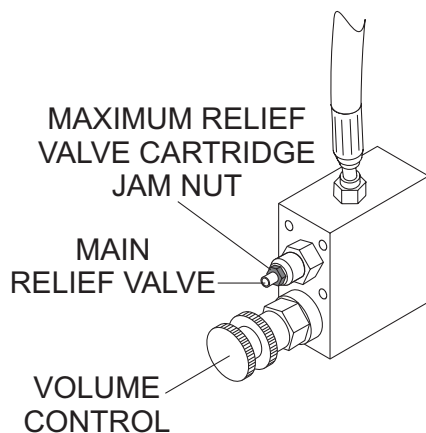
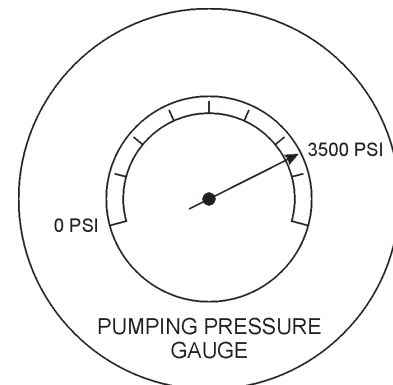

Figure 45. Hydraulic Drive Pump Manifold
Figure 46. Pumping Pressure Gauge
4. Start the engine and loosen the jam nut located on the **maximum relief valve cartridge** (Figure 45).
5. Run the engine at maximum RPM (2550) and turn the volume control knob **counter-clockwise** to maximum volume position (Figure 45).
6. On the electrical control panel, turn the **pump control switch** (Figure 22) and the **test switch** (Figure 31) to the "ON" position. Using an allen wrench, adjust the **main relief valve** (Figure 45) to **3500 PSI**. The reading can be taken from the **pumping pressure gauge** (Figure 46).